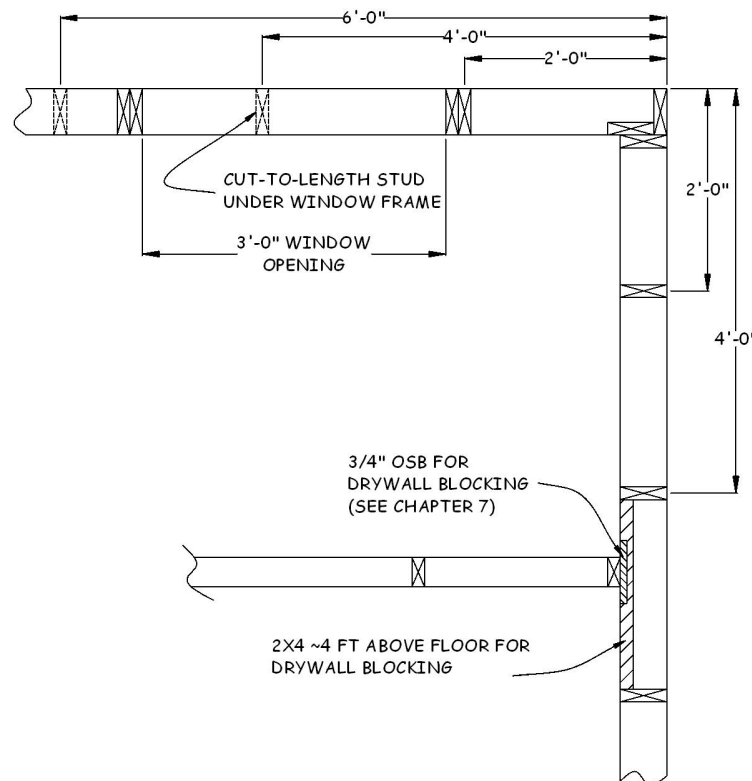

Figure 3-6. Stud and Blocking Layout.
2. Starting at the zero end, hook the measuring tape on the end of the plates and mark the location of all wall studs on 24" centers (see Figure 3-6). Center the stud marking jig on these center marks, mark both edges of each stud, and place an "X" within the two edge marks. If the stud marking jig is not available, use the tape measure to mark the stud edges $\frac{3}{4}$ " on either side of the center mark. In general, if using the 50-ft steel tape, do not hook the tape at the end of the plate; burn 24" and mark after that.
7. At each end of the long walls, layout an L-corner with two 2x6 studs made up of the normal 2x6 end stud plus an extra 2x6 stud perpendicular to the end stud on the interior side of the wall (see Figure 3-6). Mark the “L” as “Corner Down” to specify that the extra 2x6 will lay face down on the deck as the wall is being built. This will place the existing 2x6 stud facing the end of the adjoining short wall forming an inside corner.